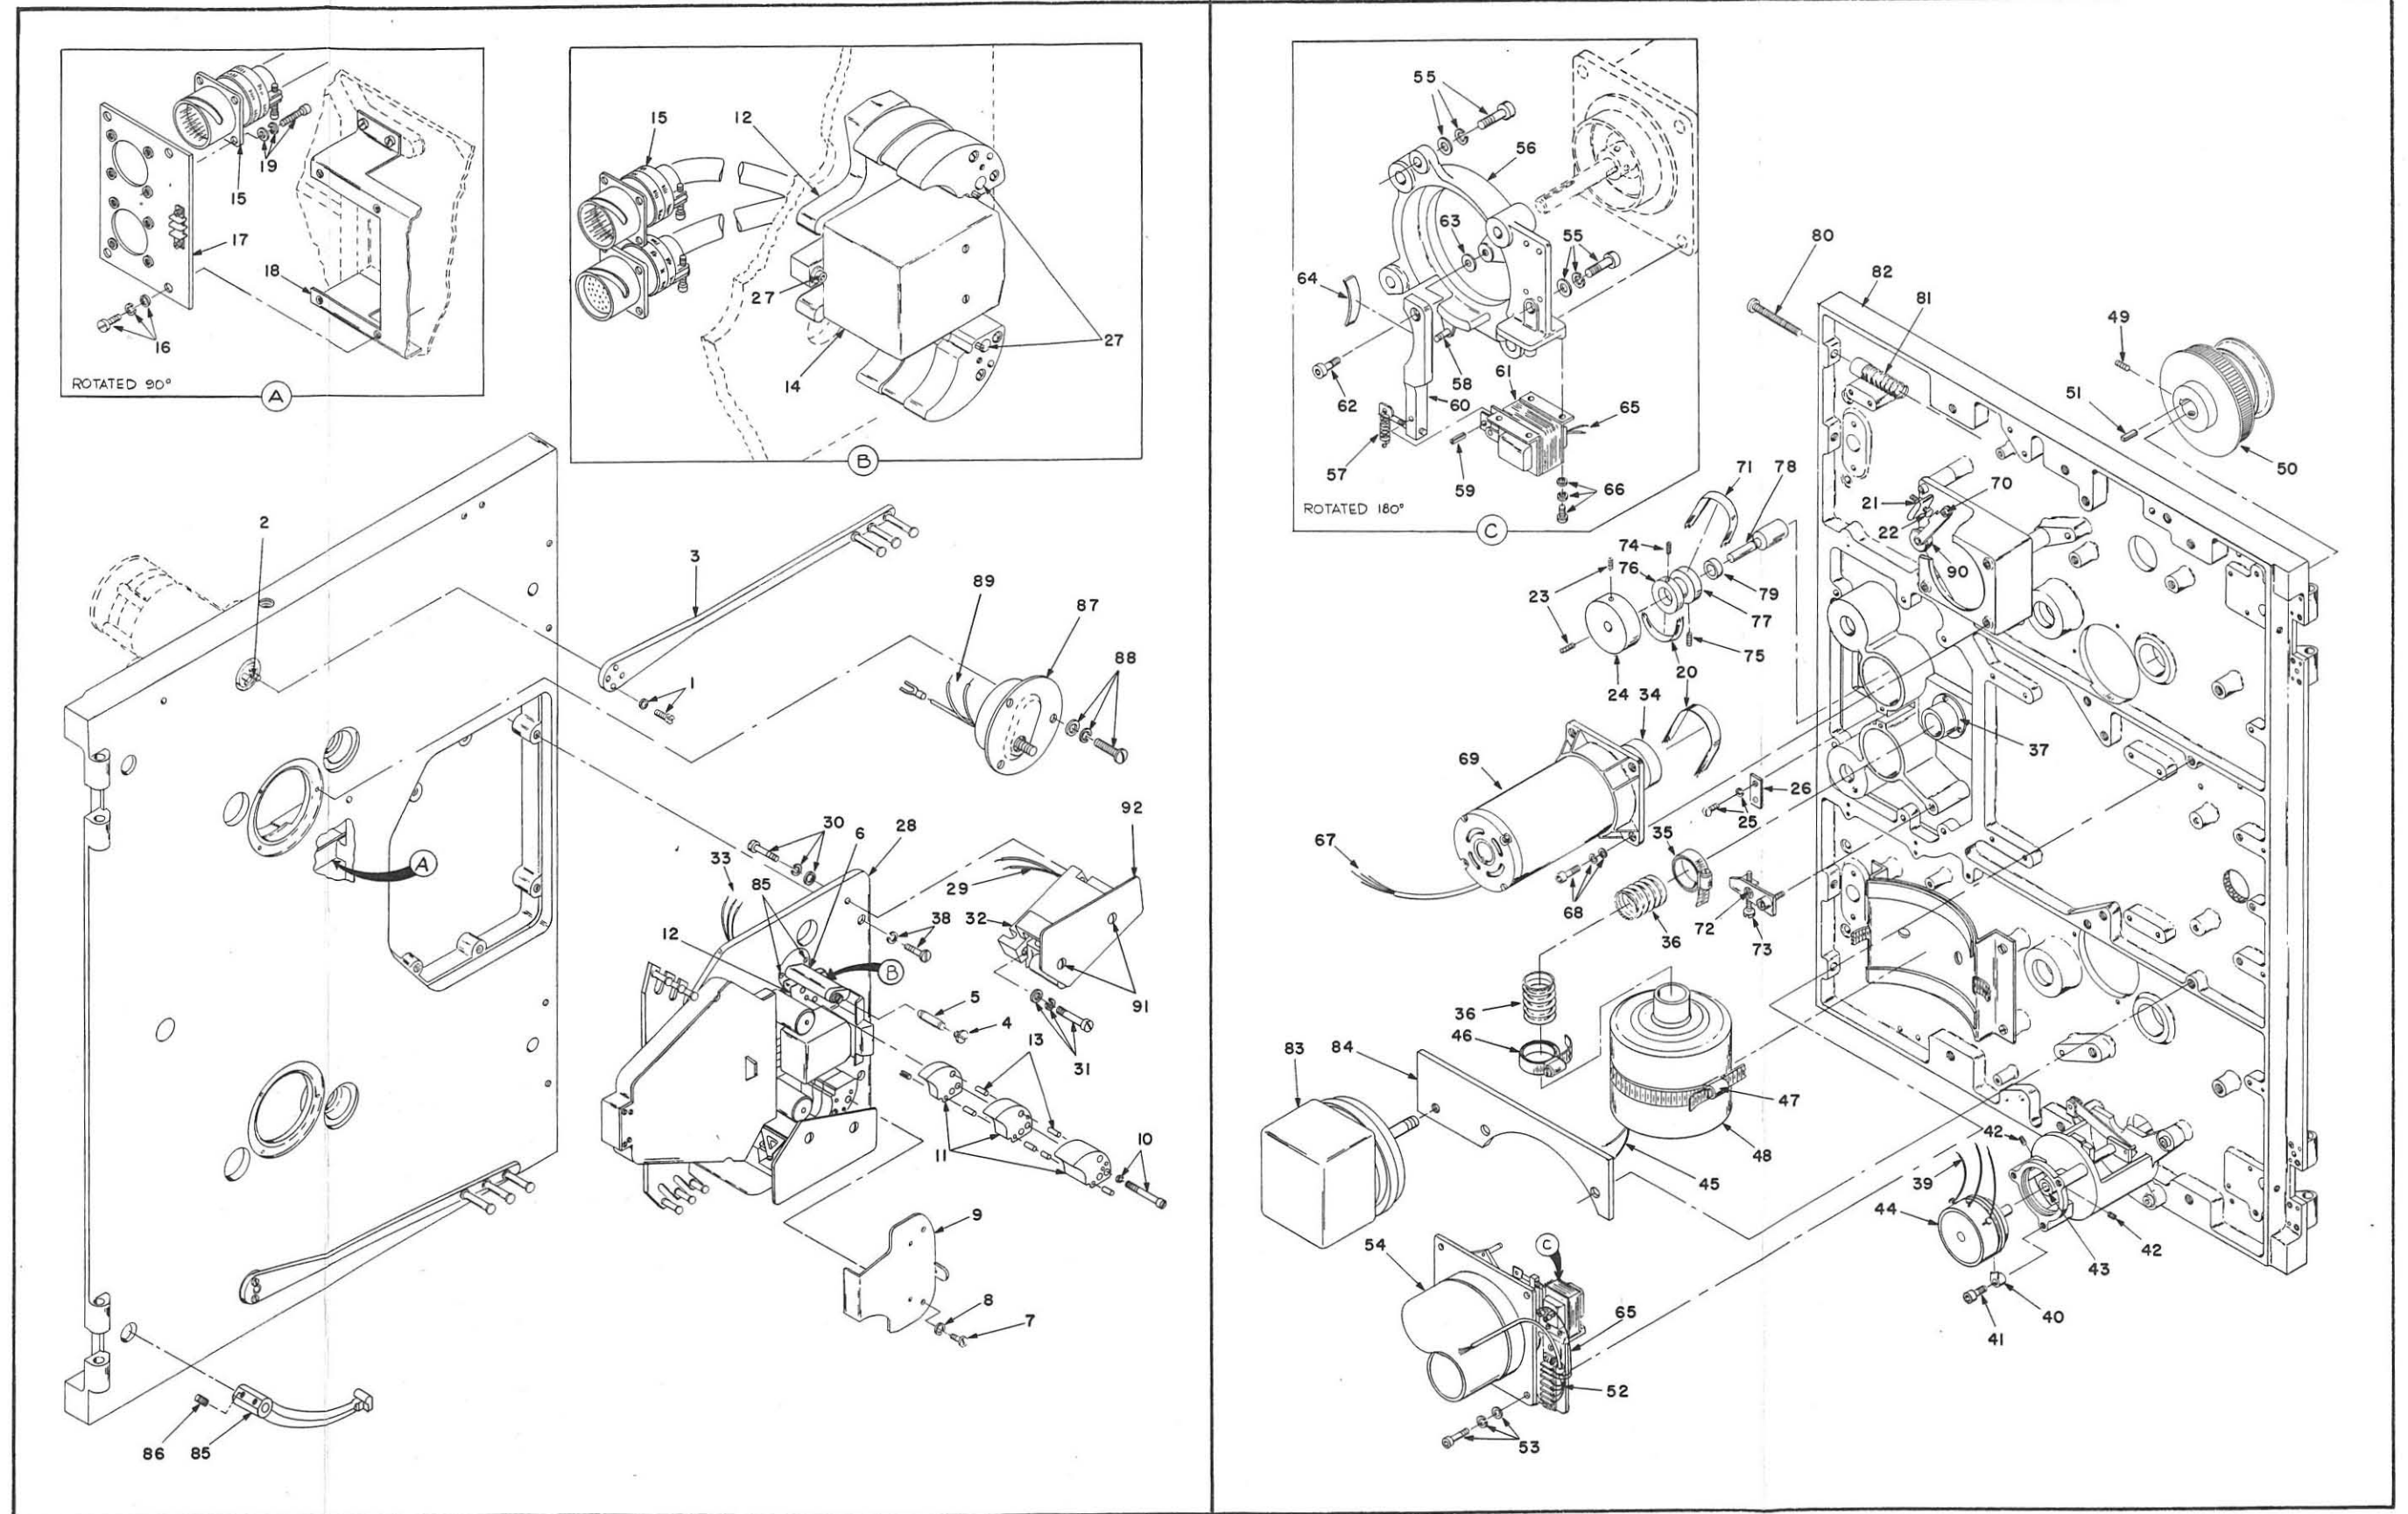
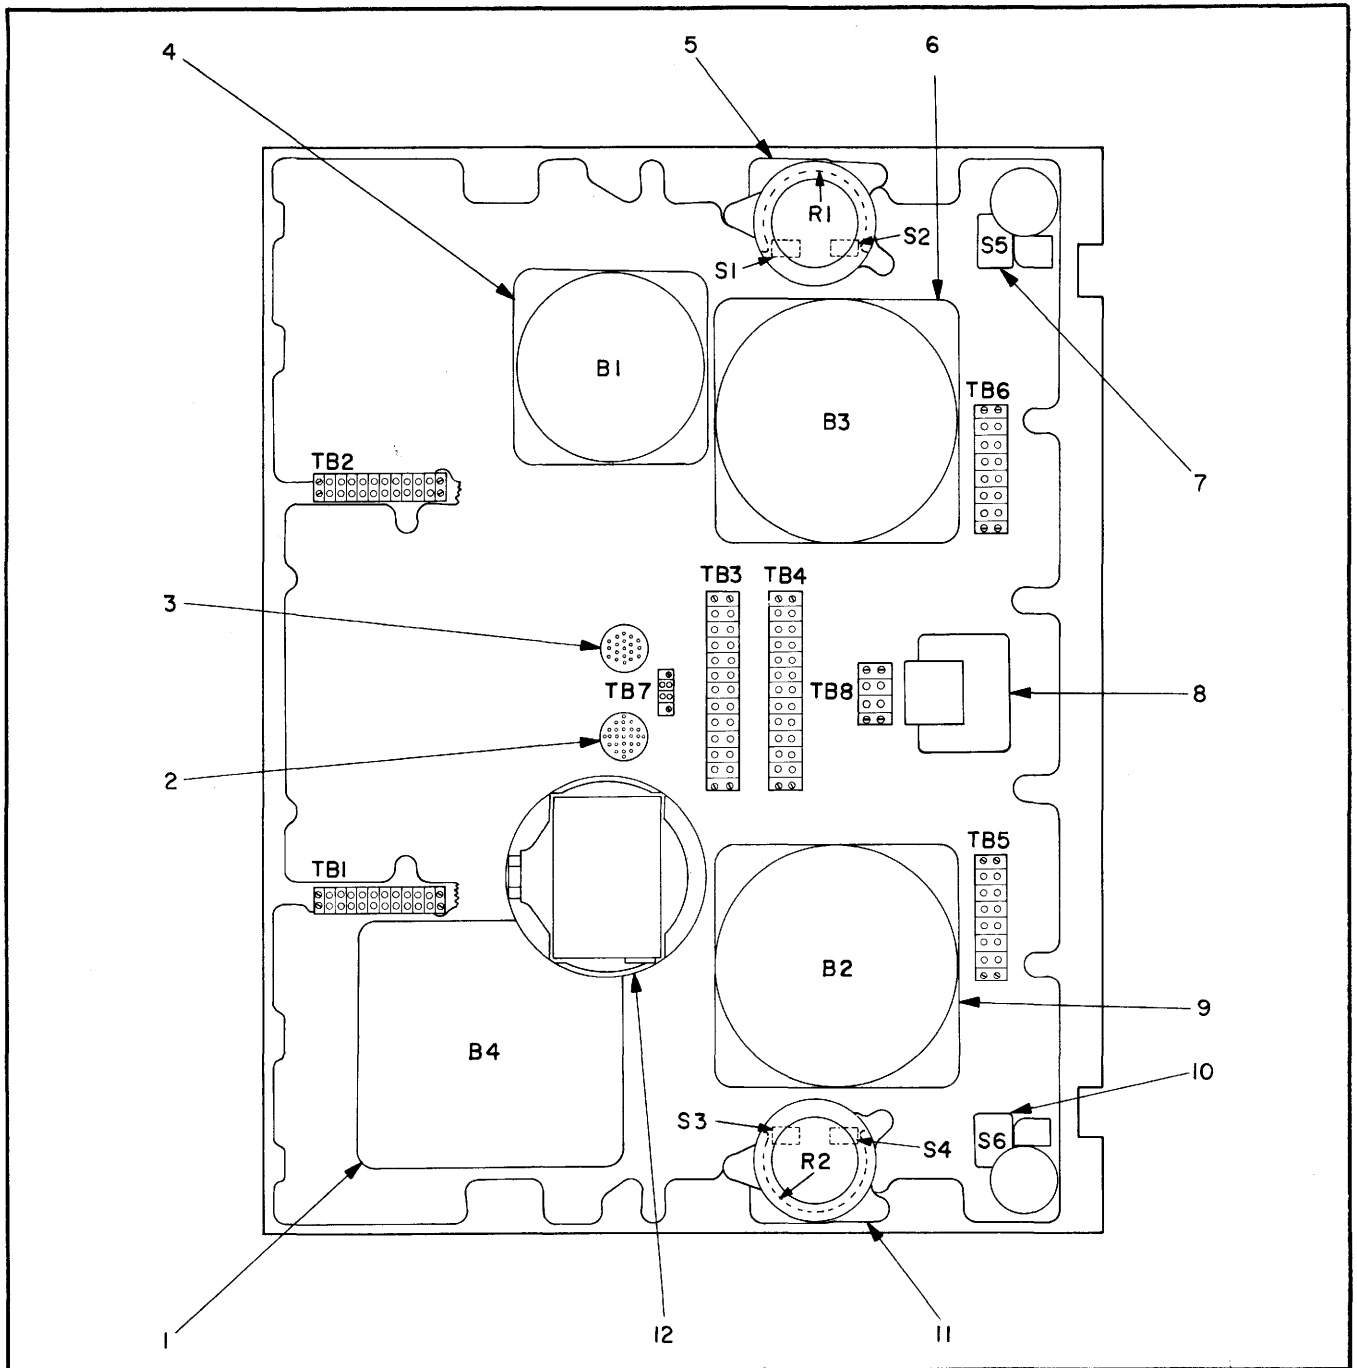
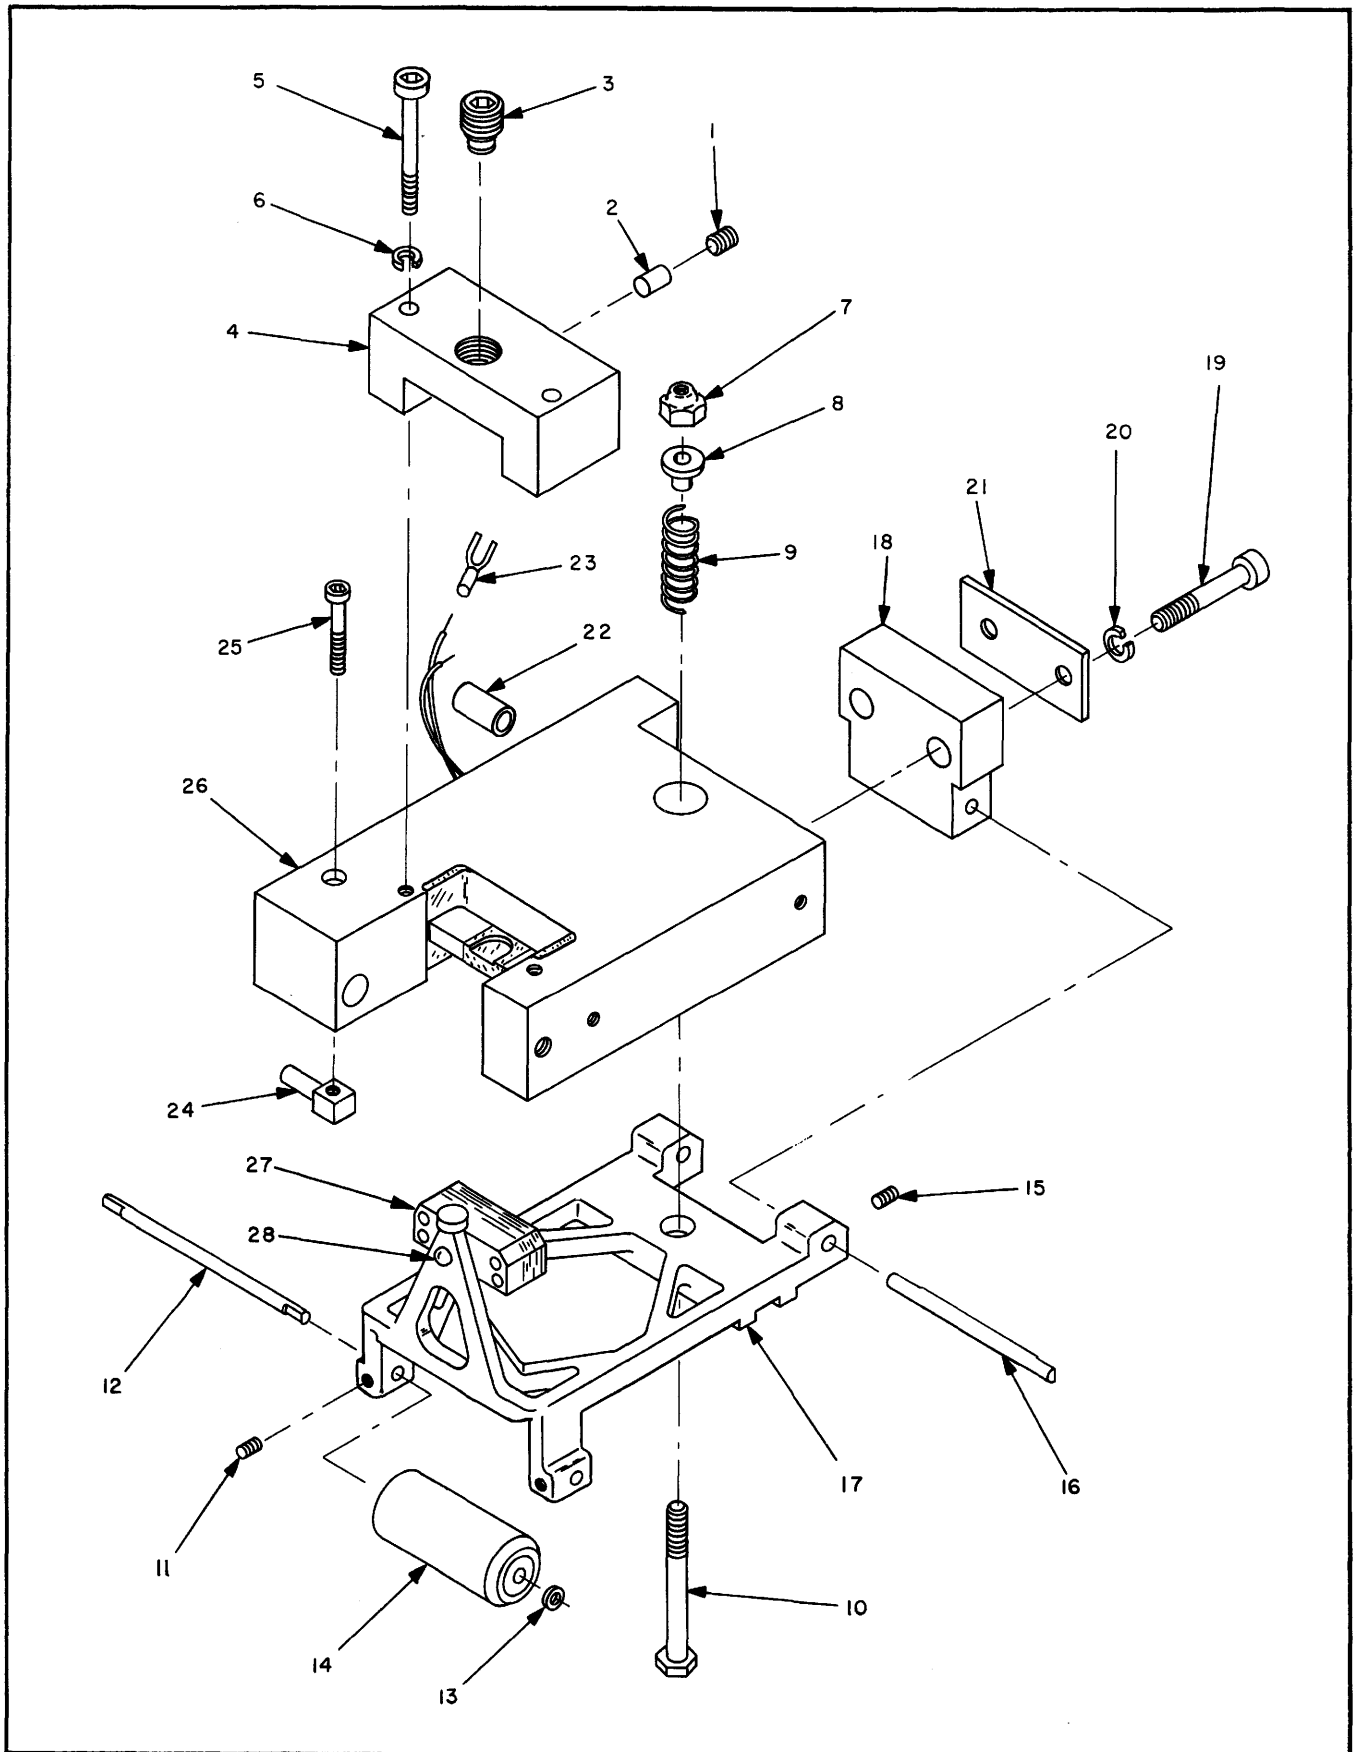
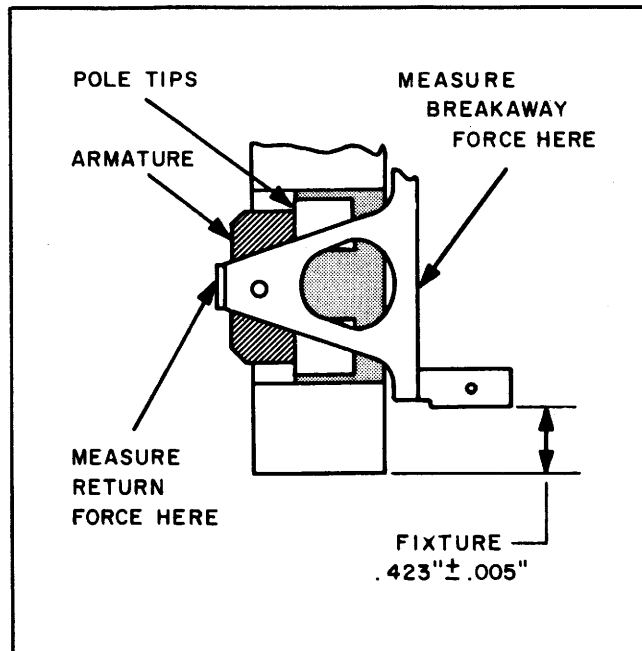

Figure 6-8. MT-120 Front and Rear Panel Components
Figure 6-9. Terminal Board and Switch Location
Figure 6-10. Drive Solenoid Assembly (Exploded View)
Figure 6-12. Measuring Return and Breakaway Force
6-4-1. GENERAL. The information in this section contains removal procedures intended for use by field maintenance personnel in the replacement of major components on the MT-120 Magnetic Tape Transport. Before removing components, disconnect all power from transport. Use standard procedures for soldering and unsoldering wires. When unsoldering wires, identify each wire and terminal to which it is connected to facilitate replacement. Exercise care to avoid dropping solder on any components. Replacement procedures are the reverse of removal procedures unless otherwise stated. All procedures are referenced to figure 6-8 while figure 6-9 is used to locate terminal boards and switches.
- b. Remove four mounting screws and washers (16), securing connector plate (17) to bracket (18)
- c. Disconnect two magnetic head cable connectors (15)
- d. Remove mounting screws and washers (19), securing connectors (15) to connector plate (17)
- e. Release tension on belt (20) by loosening lock nut (21) and turning adjustment screw (22) CCW
- f. Loosen two setscrews (23) in left fly wheel (24)
- g. Remove left flywheel (24)
- h. Remove two screws and washers (25) securing plate (26)
- i. Remove plate (26)
- j. Remove three mounting screws and washers (27)
- k. Remove trough guide mount (12) from drive plate (28).
6-4-6. REEL MOTOR. (See figure 6-8, item 54.)
- a. Remove two set screws (49) which secure reel hub (50) to motor shaft and retain key (51). See paragraph 6-4-14 for replacement.
- d. Remove cap screws (53)
- e. Remove reel motor (54).
6-4-7. IDLER ROLLER. (See figure 6-8, item 90.)
- b. Remove screw (70) and idler arm assembly
6-4-8. PINCH ROLLER (See figure 6-10, item 14.)
- a. Loosen setscrews (figure 6-10, item 11) at both ends of pinch roller
- b. Remove shaft (12)
- c. Remove spacers (13), (bushings)
- d. Remove pinch roller (14).
6-4-9. PINCH ROLLER SOLENOID ASSEMBLY. (See figure 6-8, item 32.)
- a. Remove screws (91) which hold front cover (92) to solenoid assembly
- b. Remove cover (92)
- d. Remove two mounting screws (30) and (31).
Adjustments are described in paragraph 6-3-1. The paragraphs which follow are complete re-assembly and setting procedures used to perform overhaul of the drive solenoid. In figure 6-10, the solenoid is shown in an exploded view. It is assumed that a technician capable of using common shop tools will dismantle the drive solenoid as shown in the illustration.
a. Apply light film of Lubri-plate Type 110 Grease to inside of .125 diameter in hinge block (18), figure 6-10. Assemble shaft (16) in frame (17) and through hinge block (18). Tighten set screws (15) on flats of shaft. Check for free rotation of frame (17). Remove excess grease.
b. Attach above assembly to housing (26) with hardware (19) (20) (21), but do not tighten screws.
c. Connect solenoid terminals to D. C. power supply and adjust for 3.0 amps. Permit armature to set squarely on pole tips. (See figure 6-12.) Using fixture, establish .423" dimension as shown. Tighten screws (19), figure 6-10 while power is applied.